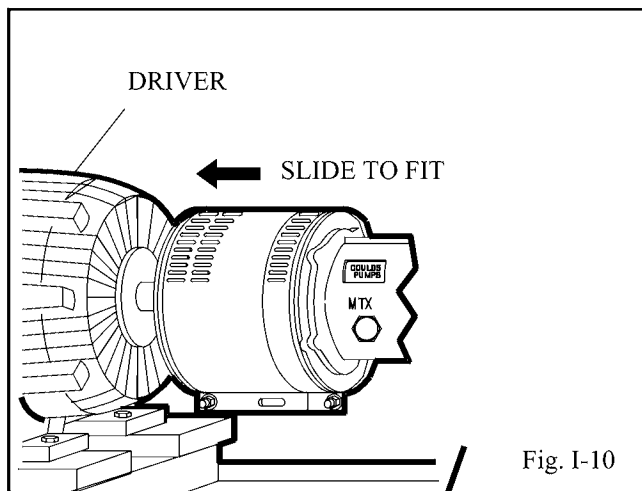

Fig. I-10
- Adjust length of coupling guard to completely cover shafts and coupling as shown in Fig. I-10 by sliding coupling guard half (driver end) towards motor. After adjusting guard length, secure with bolt, nut and two (2) washers through the slotted holes at the center of the guard and tighten. Check all nuts on the guard assembly for tightness.
- Remove nut, bolt, and washers from center slotted hole in the coupling guard. Slide motor end coupling guard half towards pump. Fig. I-10.